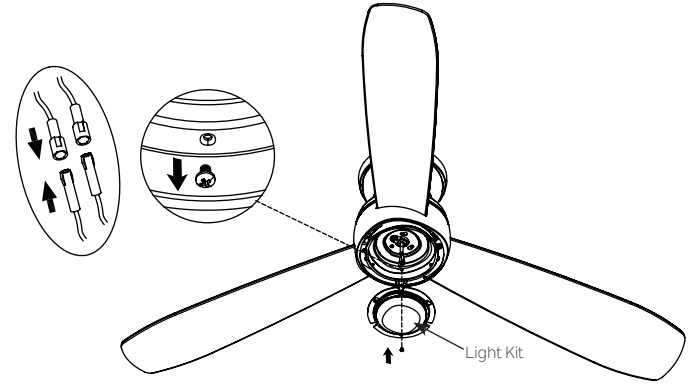

Fig. 15
**Step 1.** Hold the light kit close to the switch housing and connect the **WHITE** wires from the light kit and fan by pushing the connectors together. Follow the same procedure with the **BLACK** wires. (Fig. 15)
**Step 2.** Tuck the connections neatly into the light kit. Remove one of three screws pre-installed on the switch housing and keep for later use. Loosen the other two (do not remove). Place the two slot holes on the light kit over the 2 screws previously loosened from the switch housing. Rotate the light kit until it locks in place at the narrow end of the key holes. Secure by tightening the 2 screws previously loosened and the one previously removed. (Fig. 15)